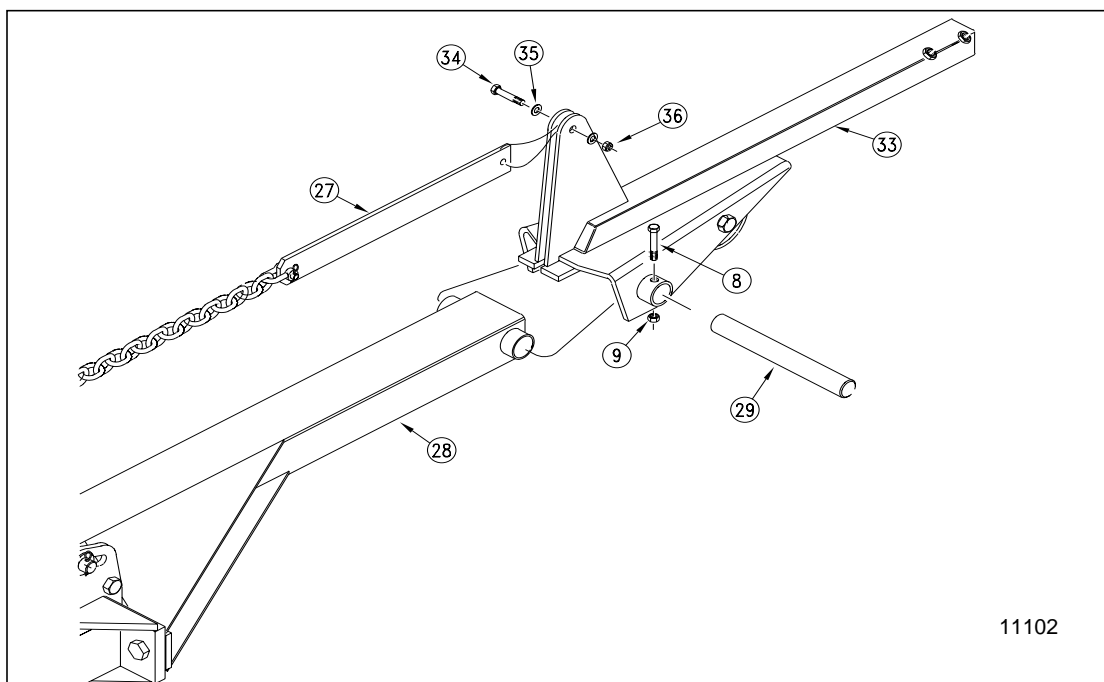

Fig. 4
6. Referring to Fig. 4, attach the 3rd section (# 33) to the 2nd section (# 28) by using the pivot pin (# 29). Retain the pivot pin with the bolt (# 8) and lock nut (# 9).